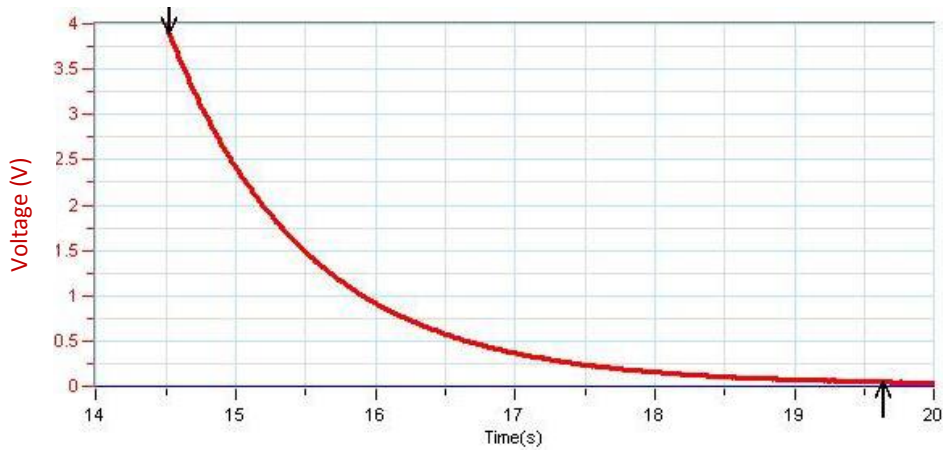

Figure 4
1. Zoom in on the discharge part of the graph (see Figure 4).
2. Use the cursors to select the part of the graph that doesn't contain zero or near zero voltage values (see Figure 4).